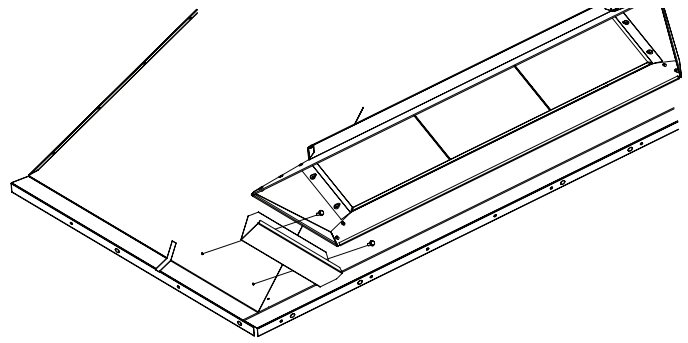

Figure 29 - Installing PureFire Hood
3. Using screws provided, secure the bracket to the inner dome of the fireplace as shown in Figure 29. The left and right bracket are different. The edge that is straight will be closer to the fireplace opening.
4. Lift hood up into the fireplace and place it on the retaining brackets (Figure 29). The rear of the hood will touching the rear of the fireplace.